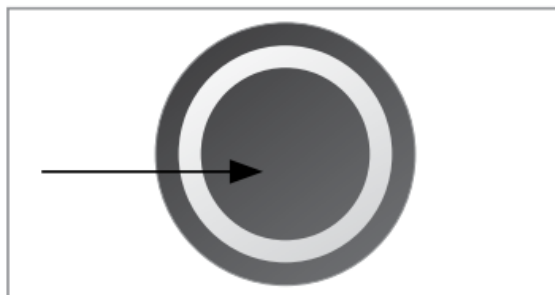

Figure 18
2. Long press the iWOC One button to turn the system off (Figure 18).